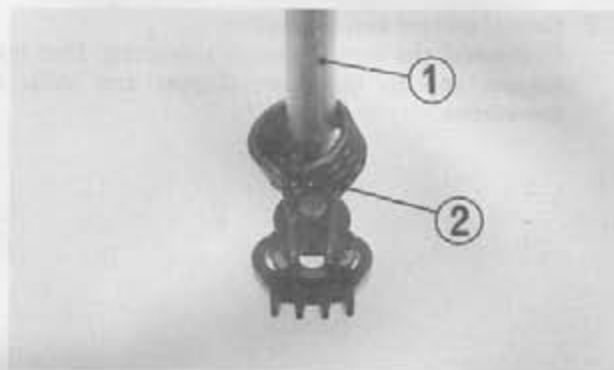

Fig. 3-51 (1) Gearshift spindle
(2) Drum shifter
(3) Drum stopper arm collar
6. Install the gearshift return spring to the gearshift spindle as shown in Fig. 3-51.